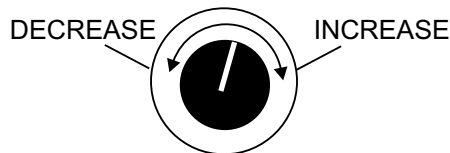

Figure 30. Voltage Adjust Control Knob
- If the voltage is not within the specified tolerance use the voltage adjustment control knob (Figure 30) to increase or decrease the desired voltage.